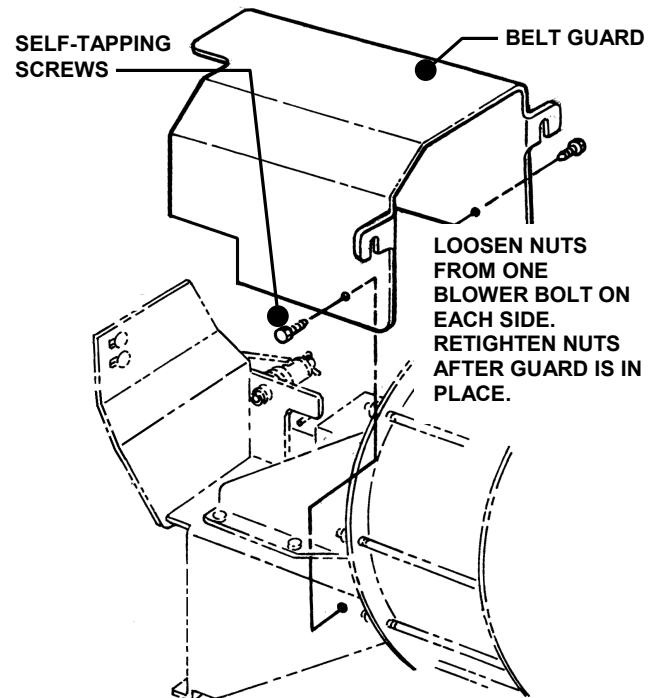

FIGURE 1.9
8. Install belt guard. Refer to Figure 1.9.